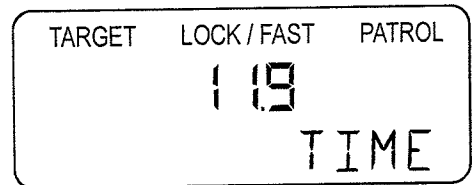

Fig. 24c
3. While observing the target vehicle traverse the measurement zone, start timing by pressing the trigger once upon entry and stop timing by pressing the trigger again upon exit. Fig. 24c illustrates the timing function in the Stopwatch mode.